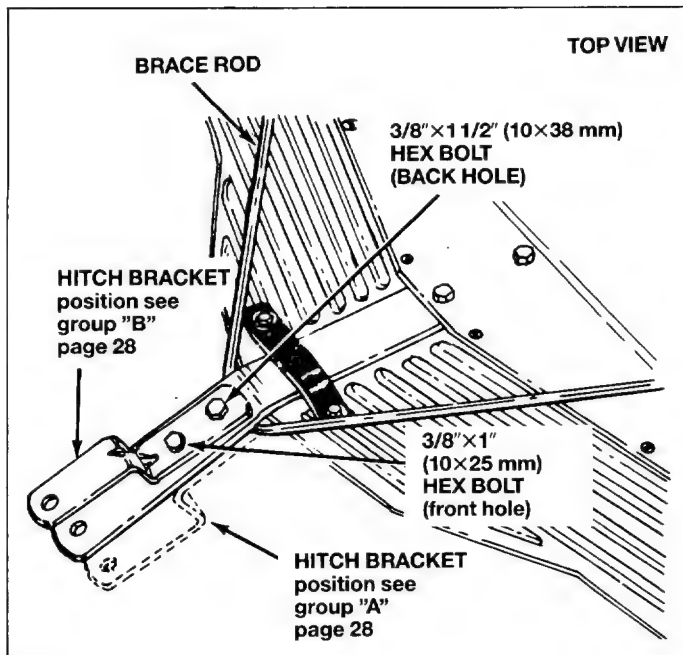

Fig. 6
NOTE! Before assembling the hitch bracket to the hitch bar refer to figure 6 and page 28 to determine which position is required for your riding mower.
5. Assemble the hitch bracket to hitch bar with one 3/8"×1" (10×25 mm) hex bolt (in the front hole) and 3/8" (10 mm) hex lock nut. Do not tighten at this time. See figures 6 and 7.
6. Assemble the hitch bracket with one 3/8"×1—1/2" (10×38 mm) hex bolt (in the back hole), large flat washer and 3/8" (10 mm) hex lock nut. (Do not tighten at this time). See figures 6 and 7.